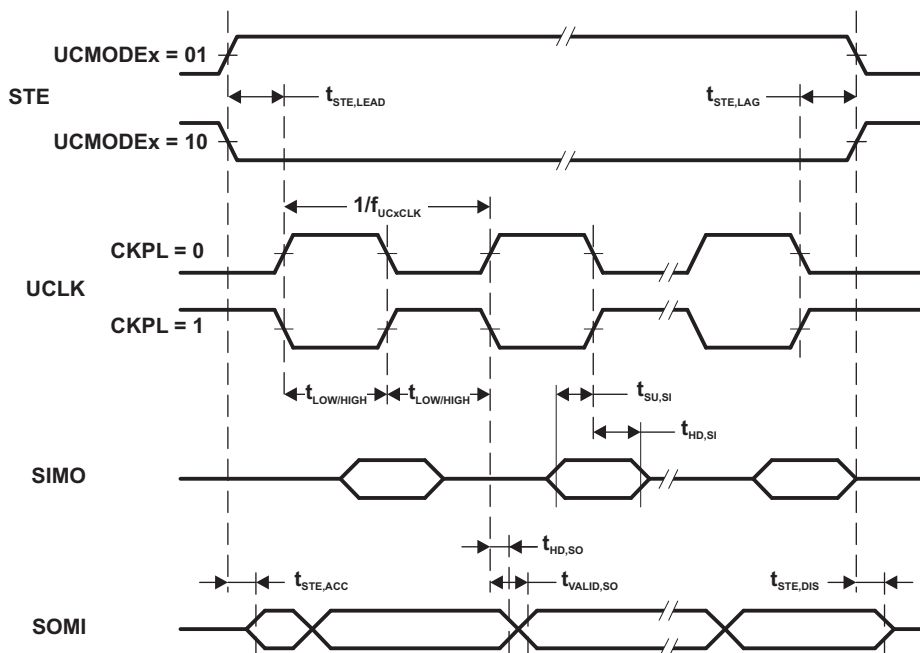
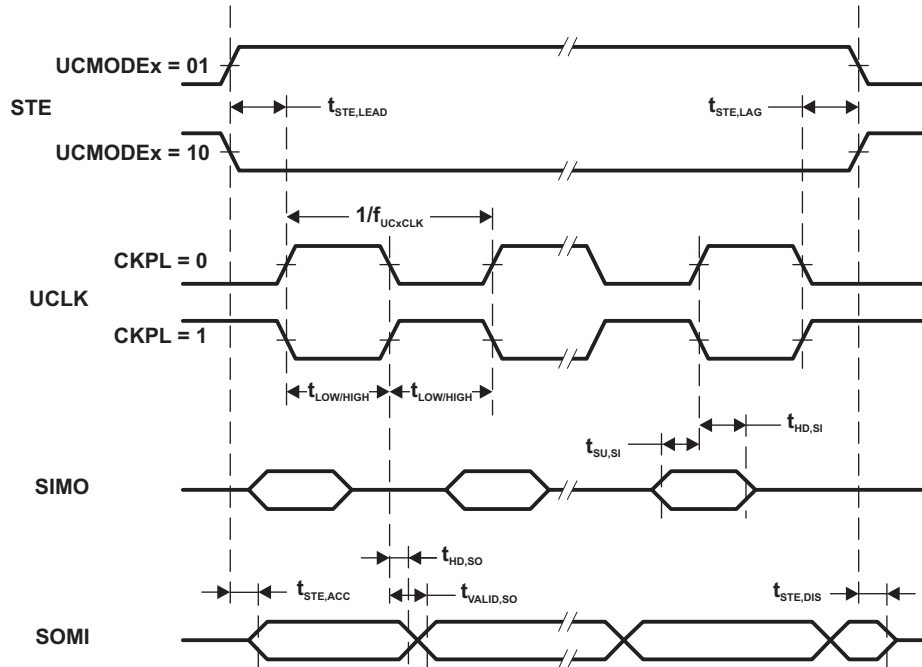

Figure 5-12. SPI Slave Mode, CKPH = 0
Figure 5-13. SPI Slave Mode, CKPH = 1
- (1) $f_{UCxCLK} = 1/2t_{LO/HI}$ with $t_{LO/HI} \geq \max(t_{VALID,MO(Master)} + t_{SU,SI(eUSCI)}, t_{SU,MI(Master)} + t_{VALID,SO(eUSCI)})$. For the master's parameters $t_{SU,MI(Master)}$ and $t_{VALID,MO(Master)}$ refer to the SPI parameters of the attached slave.
- (2) Specifies the time to drive the next valid data to the SOMI output after the output changing UCLK clock edge. Refer to the timing diagrams in Figure 5-12 and Figure 5-13.
- (3) Specifies how long data on the SOMI output is valid after the output changing UCLK clock edge. Refer to the timing diagrams in Figure 5-12 and Figure 5-13.